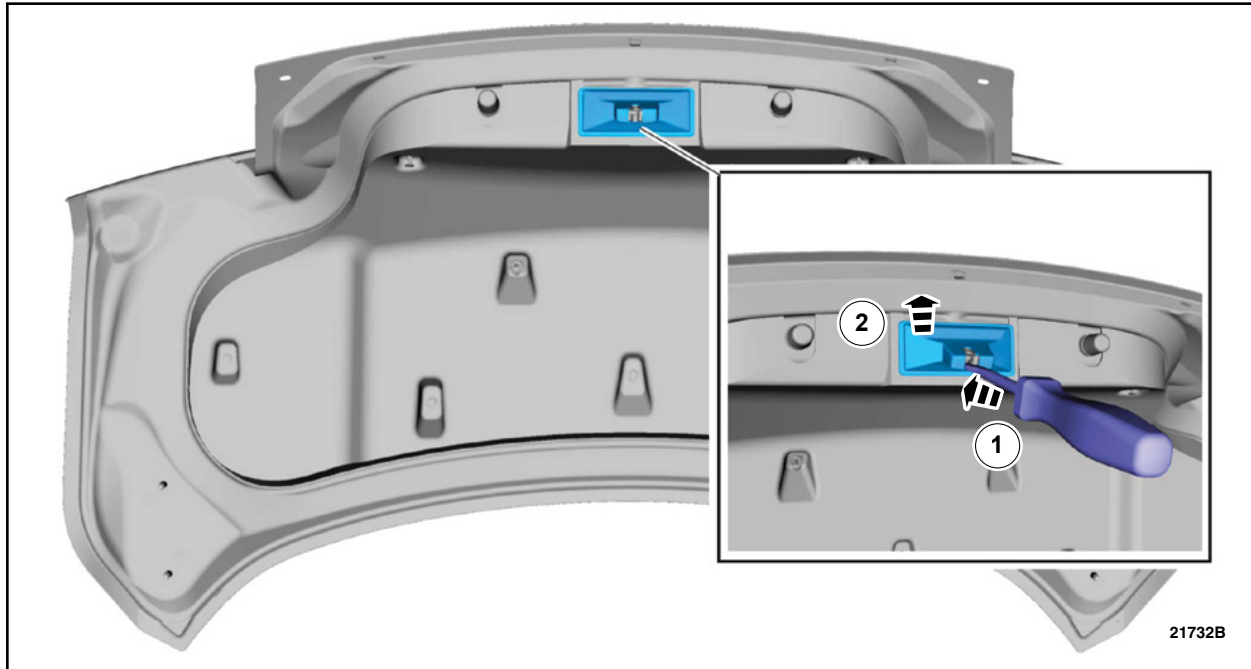

FIGURE 3
8. Remove the luggage compartment lid latch cover. See Figure 3.